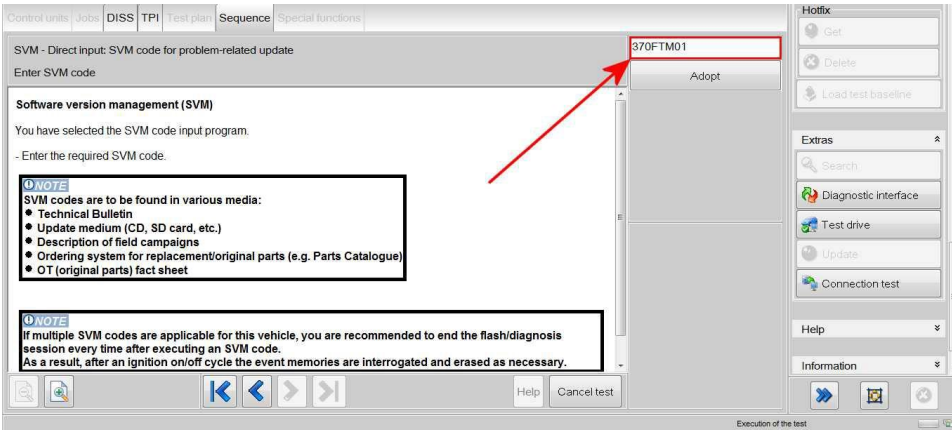

Figure 2
2) Referring to Figure 2 – Enter the SVM code 370FTM01